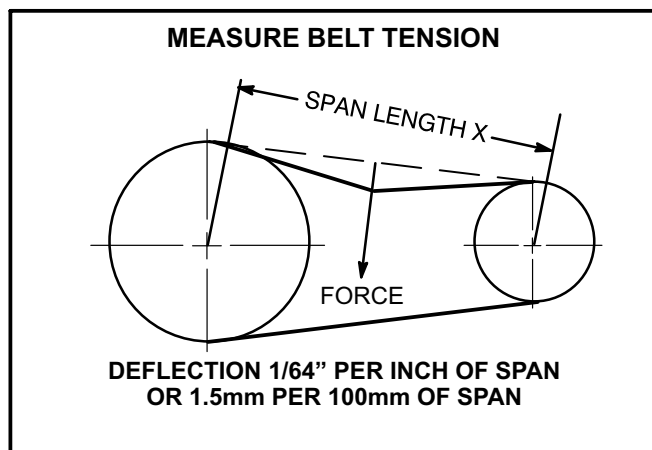

FIGURE 22
- 1- Measure span length X. See figure 22.
- 2- Apply perpendicular force to center of span (X) with enough pressure to deflect belt 1/64" for every inch of span length or 1.5mm per 100mm of span length.